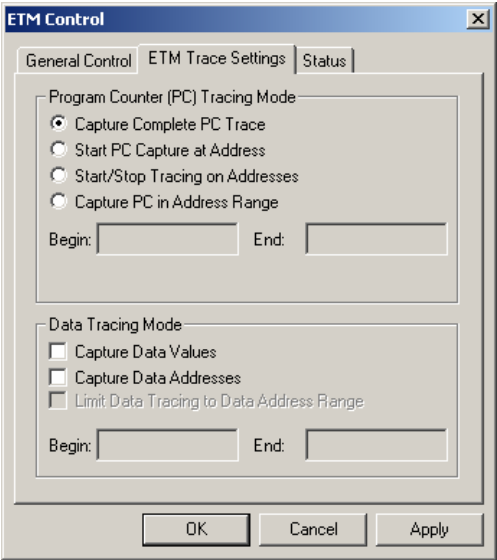

FIGURE 95 ETM Trace Settings tab.
3. Select the **ETM Trace Settings** tab to make sure that the **Capture Complete PC Trace** is enabled and that the Data Tracing check boxes are cleared (Figure 95). Click **OK** to complete the trace configuration setup.